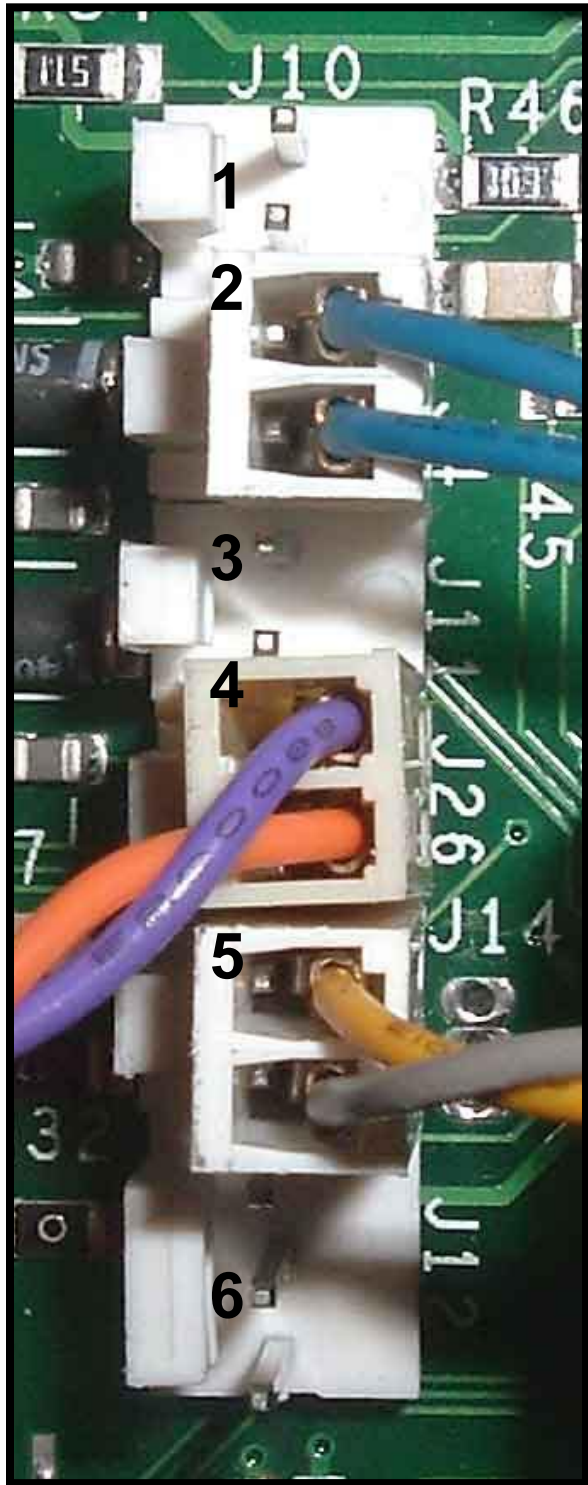

Figure 1 Phone Junction Board - Terminal J10
- 2) If required, connect the microphone wires (yellow/grey) to the Telephone Junction Board terminal block J10, position 5. Refer to Figure 1.